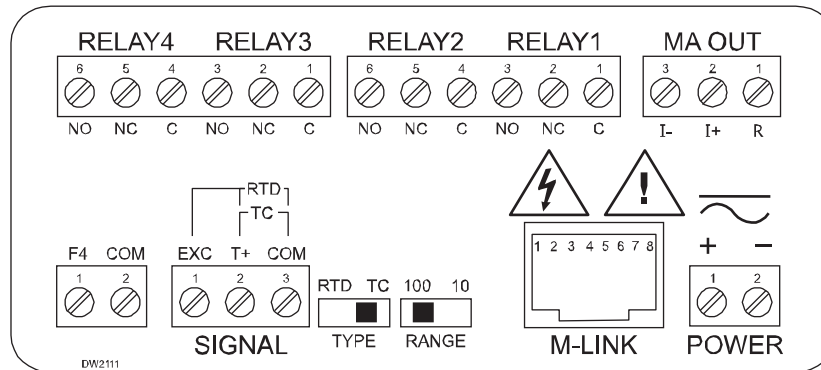

Figure 5. Connector Labeling for Fully Loaded PD7000
Power connections are made to a two-terminal connector labeled POWER on Figure 5. The meter will operate regardless of DC polarity connection. The + and - symbols are only a suggested wiring convention.
Signal connections are made to a three-terminal connector labeled SIGNAL on Figure 5.
Serial communications connection is made to an RJ45 connector labeled M-LINK on Figure 5. For interfacing to the PROVu®, use the PDA1232 for RS-232 or the PDA1485 for RS-485. The same port is used for interfacing with all expansion modules (*i.e.* external relays, digital I/O).
Relay connections are made to two six-terminal connectors labeled RELAY1 – RELAY4 on Figure 5. Each relay's C terminal is common only to the normally open (NO) and normally closed (NC) contacts of the corresponding relay. The relays' C terminals should not be confused with the COM (common) terminal of the INPUT SIGNAL connector.